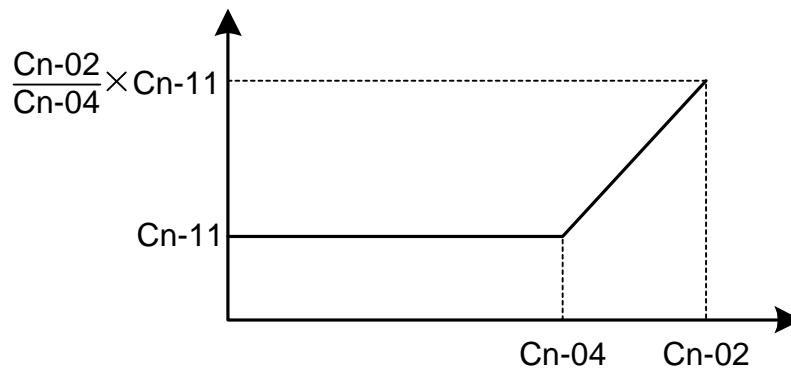

Fig. 18 Slip compensation limit
- The setting is shown in Fig. 18 in the constant torque and constant output range. If setting Cn-11 is zero, no slip compensation is used.